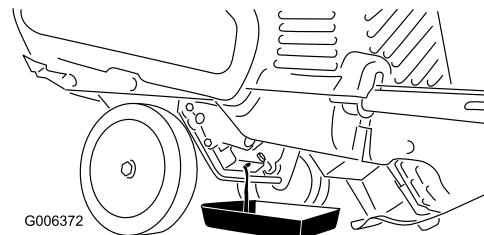

Figure 25
3. Place an oil drain pan under the oil drain plug, remove the oil drain plug, and tip the snowblower backward and drain the used oil in the oil drain pan (Figure 25).